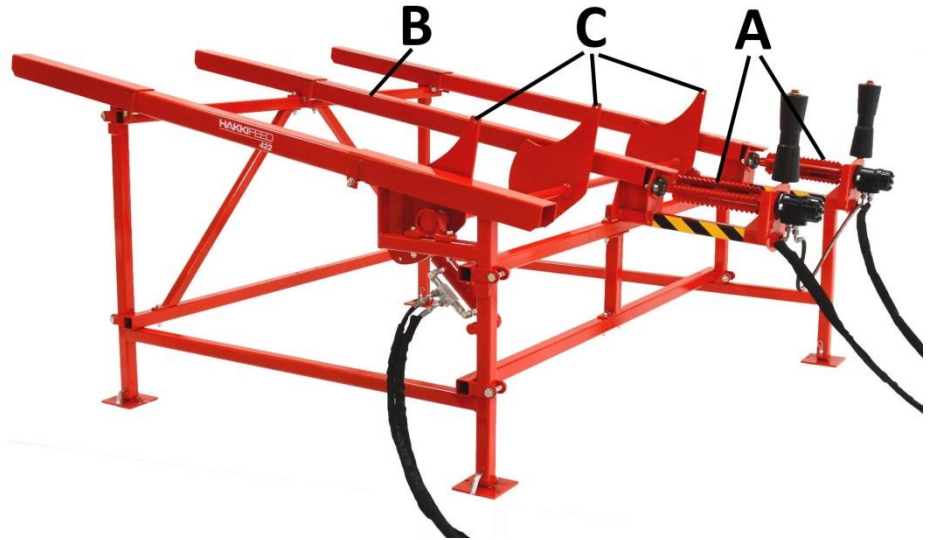

Figure 2. Main components of the machine
2. Operate in-feed conveyor A (Figure 2) empty, and ensure that the rollers run freely and in the right direction.